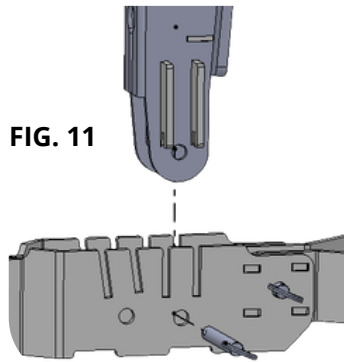

FIG. 11
- Adjust using the 10 degrees of angle adjustment provided in the base stand, as shown in Fig. 11 & 12.